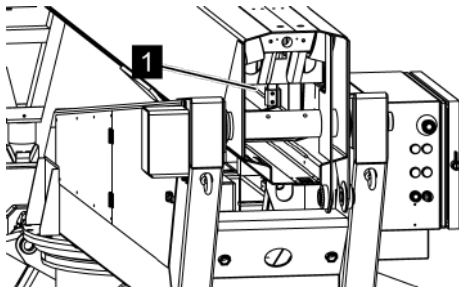

Fig. 146: Clean the inside
3. ➤ Remove accumulations from the inside of the telescopic arm (Fig. 146/1) by hand or with compressed air.